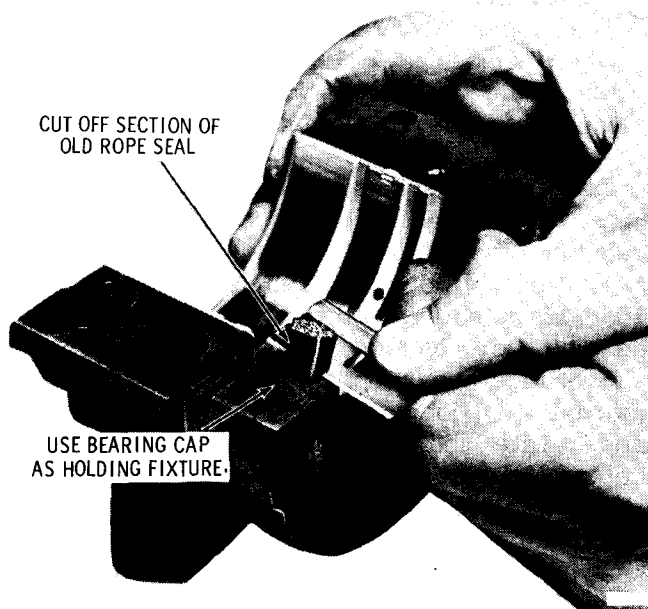

Figure 84—Cutting Off Lower Seal Ends
4. Measure the amount the seal was driven up on one side; add 1/16", then cut this length from the old seal removed from the main bearing cap with a single edge razor blade. Measure the amount the seal was driven up on the other side. Add 1/16" and cut another length from old seal. Use main bearing cap as a holding fixture when cutting seal as shown in figure 84.